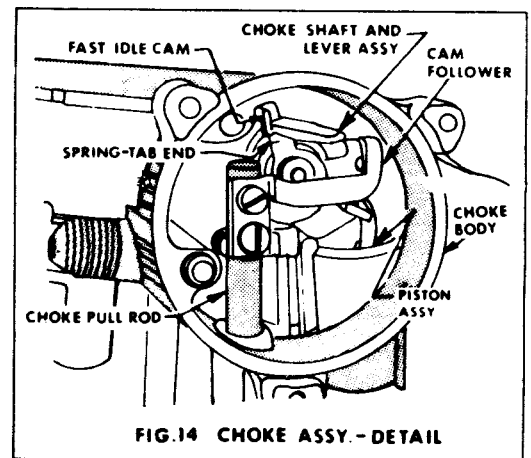

FIG. 14 CHOKe ASSY. - DETAIL
2. Do not interchange main and secondary jets. Orifice of secondary jet (86) is larger.
3. Be sure to correctly install choke shaft and lever assembly (39) into choke body (43). Refer to Fig. 14 for details.